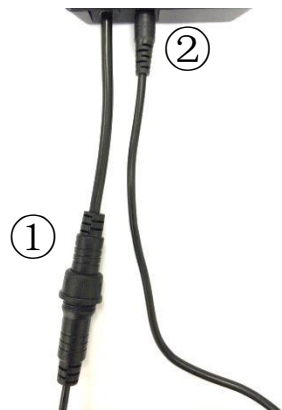

Fig.3 Pump and Power
3. Connection to Your Aquarium Pump : As on Fig.3, connect your pump to the AQLink A1 “PUMP” cable